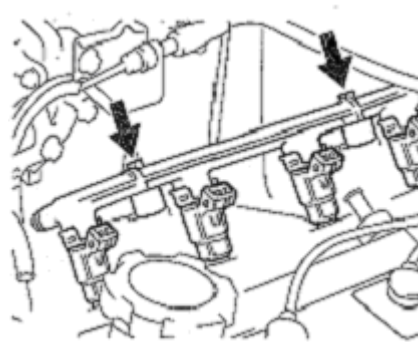

Figure 96
4. Detach fuel delivery pipe sub-assembly. See (Figure 96)